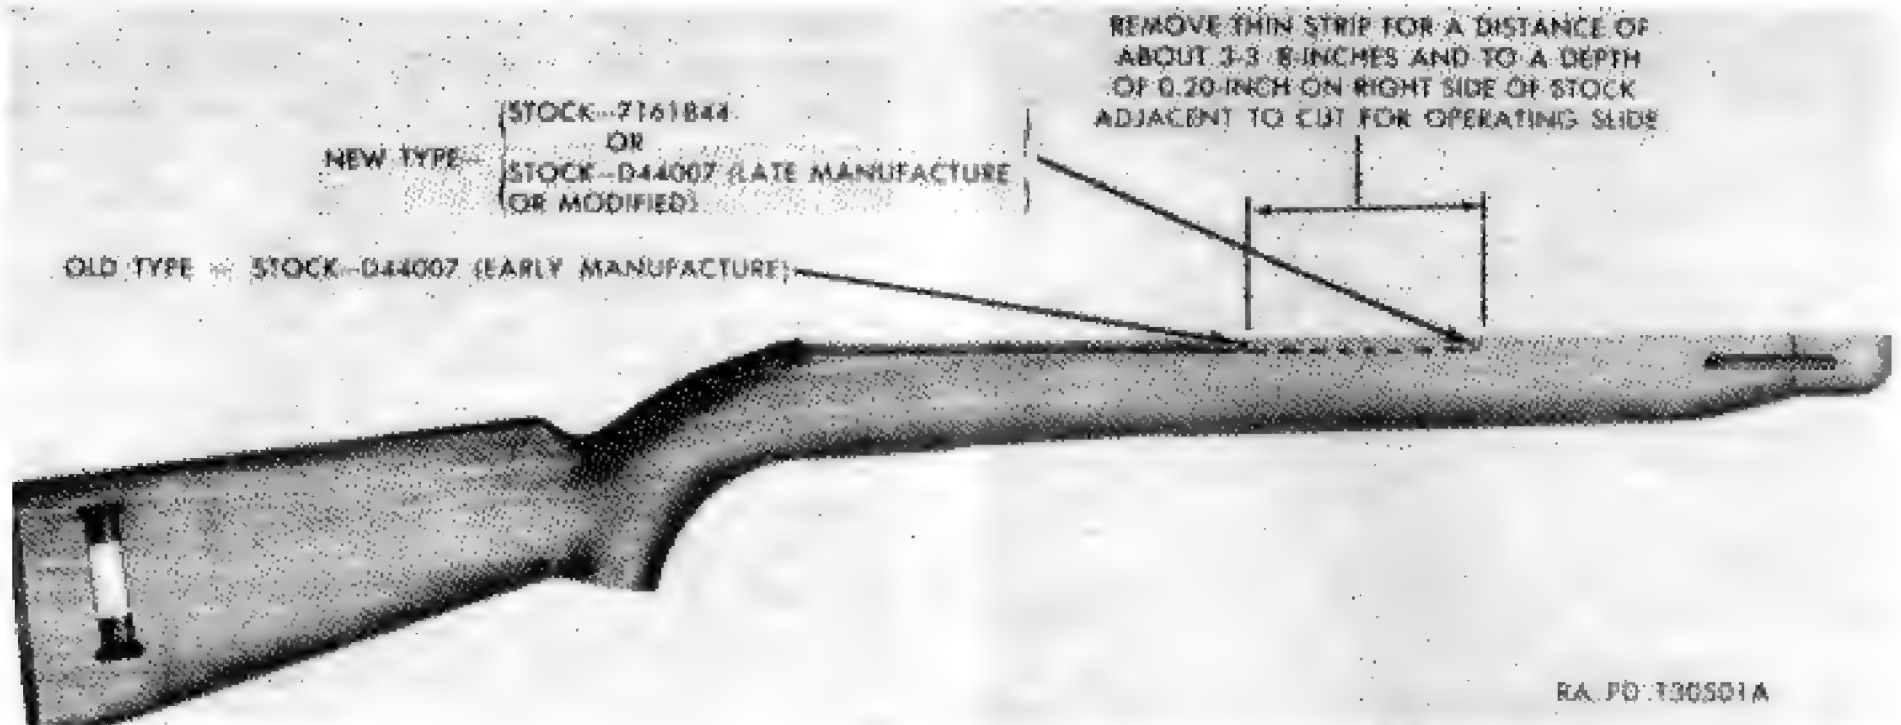

Figure 103. Modification of stock D44007 of early manufacture (carbine M1).
e. *Stock Modification.* Carbine M1 stocks of stock assemblies C57157 of early manufacture were made with a thin section on the right side where the operating slide bar passes to the right side of the receiver. This thin strip should be removed in order to prevent cracks from starting in this area. The stock should be cut down as shown in figure 103.